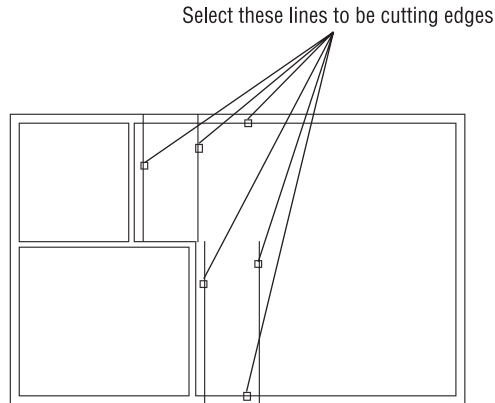

FIGURE 4.23: Selecting the cutting edges
6. Type `tr↵` to start the Trim command, and select the three lines at each opening (six lines total), as shown in Figure 4.23. Then press the